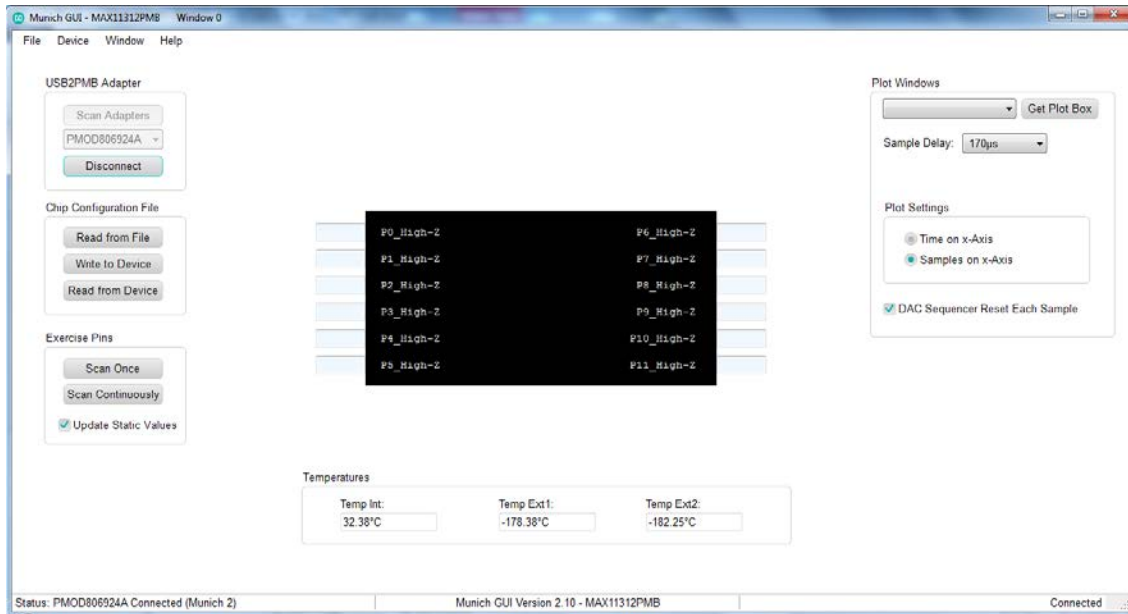

Figure 17. Munich GUI at startup.
3. Click the **Connect** button. The Munich GUI then reads the current configuration from the connected MAX11312PMB# and displays the pin description for each pin. If the device is powered up, every pin is high-Z (high impedance) as shown in **Figure 17**.